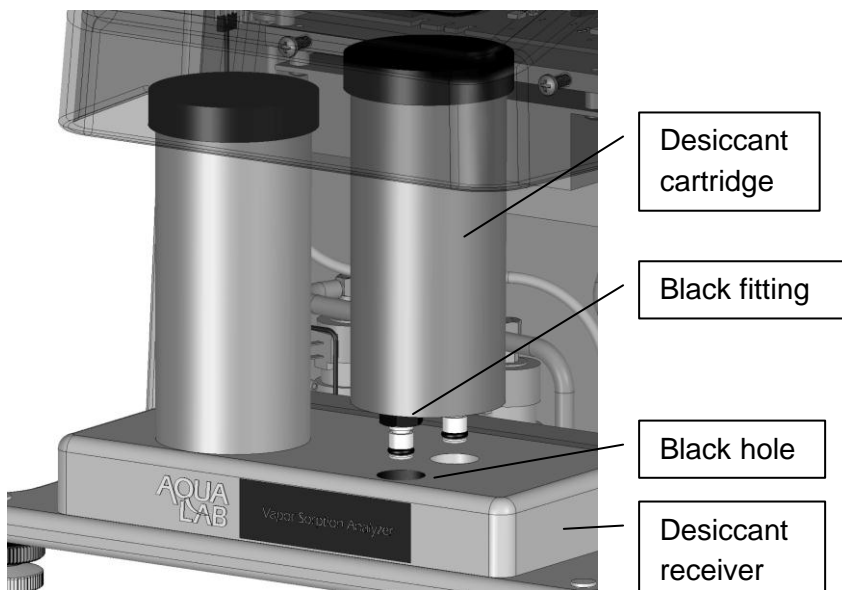

Figure 2: Desiccant installation
- Desiccant tubes are installed as shown in *Figure 2: Desiccant installation*. Before insertion make sure that the desiccant tube lid is firmly sealed onto the desiccant tube, remove black vinyl covers from air fittings. Lift the desiccant tube into the area above the desiccant receiver and then insert the fittings into the mating holes while rocking the tube slightly. Be sure to place the black fitting into the corresponding black hole. Once in place, the desiccant tube is sealed for flow purposes even if it may feel loose.